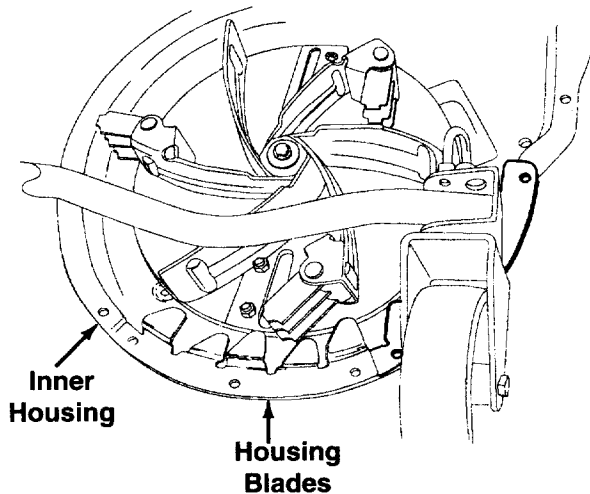

Figure 21
24. Place the housing blades against the inner housing. The blades must be placed as shown in Figure 21.